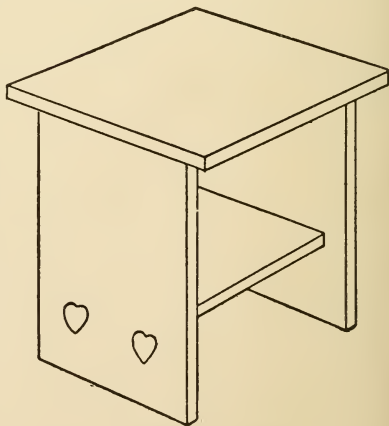

FIG. 130.—A Table.
**Tables** for the living-room, dining-room, bedroom, ball-room, and nursery of a doll-house may be patterned after the designs of Figs. 130 and 131. These should be two and one-half inches high to be of proper proportion for the chairs.
make Fig. 130 are a top two inches square, two sides an inch and one-half wide by two and one-half inches high, and a shelf an inch and one-quarter square. Fasten the pieces together as in the illustration, placing the shelf between the side-pieces an inch from the bottom.